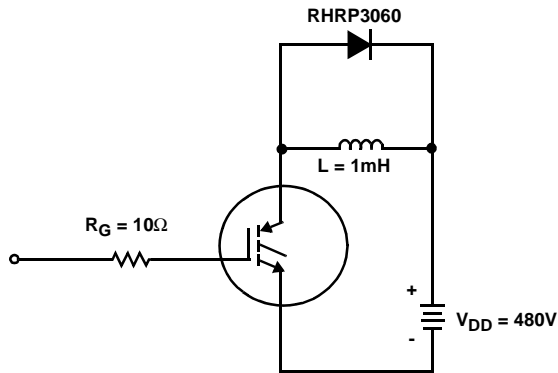

FIGURE 17. INDUCTIVE SWITCHING TEST CIRCUIT
- Values for two Turn-On loss conditions are shown for the convenience of the circuit designer. E_{ON1} is the turn-on loss of the IGBT only. E_{ON2} is the turn-on loss when a typical diode is used in the test circuit and the diode is at the same T_J as the IGBT. The diode type is specified in Figure 17.